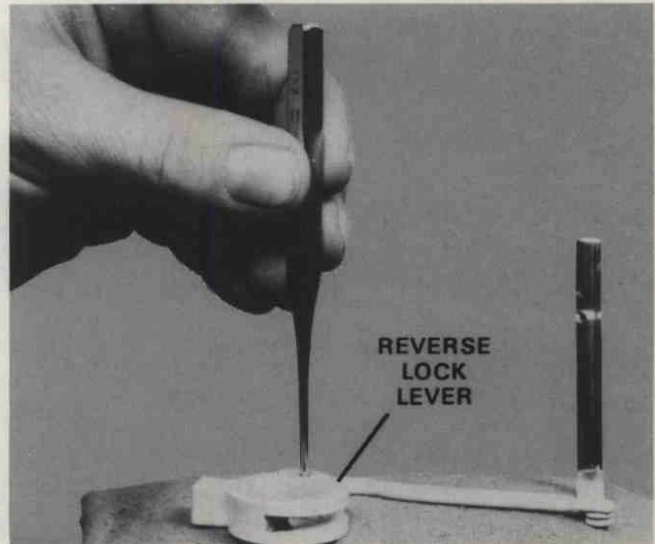

Figure 10. Removing Spring Pin in Reverse Lock Lever.
G. Drive out spring pin securing reverse lock lever to reverse lock intermediate lever. Figure 10.